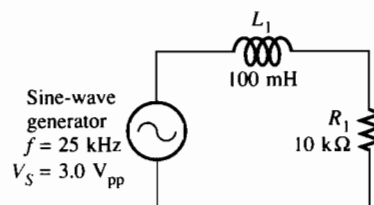

Figure 25–2
3. Using a two-channel oscilloscope, measure the peak-to-peak voltage across the resistor (V_R) and the peak-to-peak voltage across the inductor (V_L). (See Figure 25–3 for the setup.) Measure the voltage across the inductor using the difference technique described in Experiment 16. Record the voltage readings in Table 25–2.